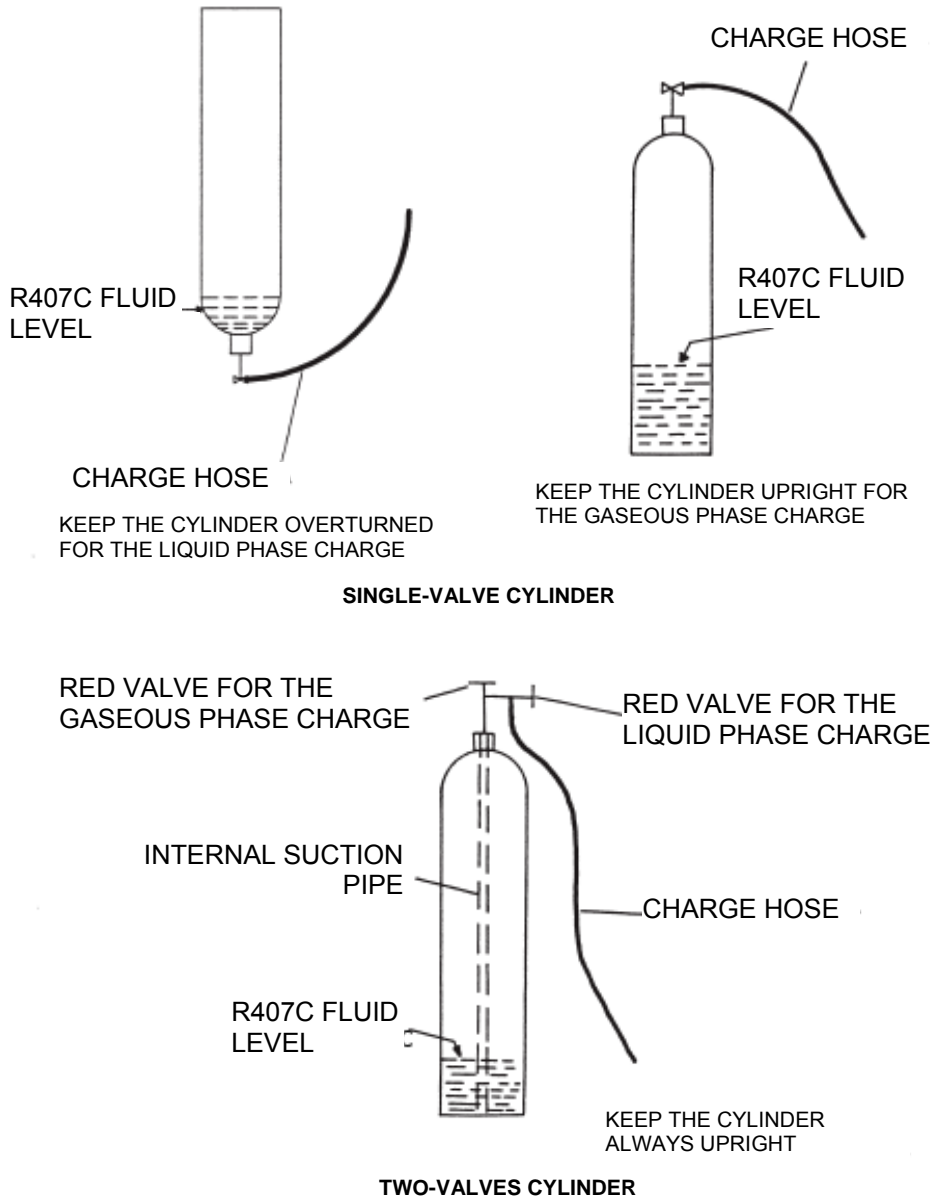

Fig. 17 Refrigerant cylinder
- R407C refrigerant cylinder (ref. Fig. 17).
- 4) In case of a single valve cylinder, the refrigerant can be charged in the liquid state with the cylinder overturned (with the output valve down). If there is, instead, a two-valves cylinder, there is a bleu valve for the vapour phase charge and a red valve for the liquid phase charge so that it's not necessary to overturn the cylinder (ref. Fig. 17).
- R407C refrigerant cylinder (ref. Fig. 17),